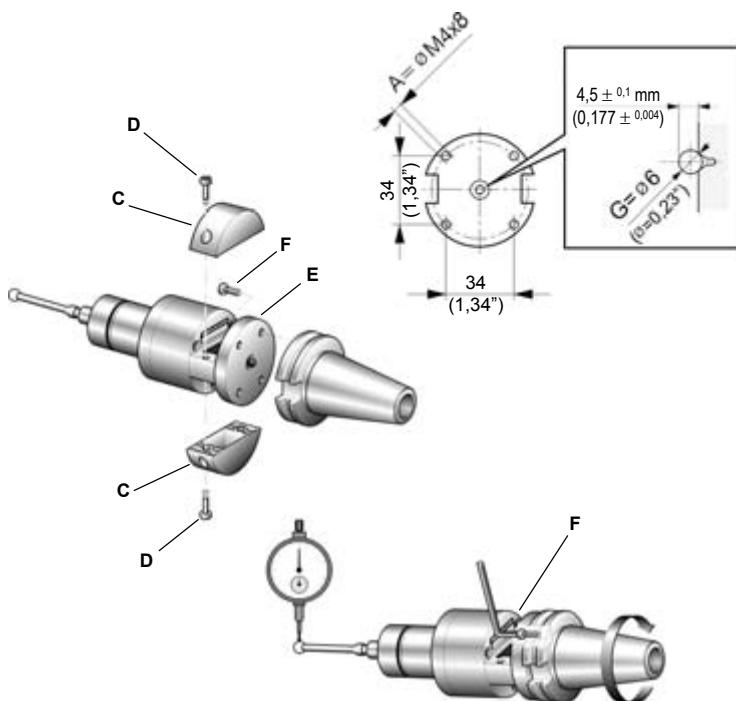

Figure 12-1
- Make four threaded holes M4x8 (**A**) and a central countersunk area (**B**) in the taper, as illustrated in Figure 12-1.